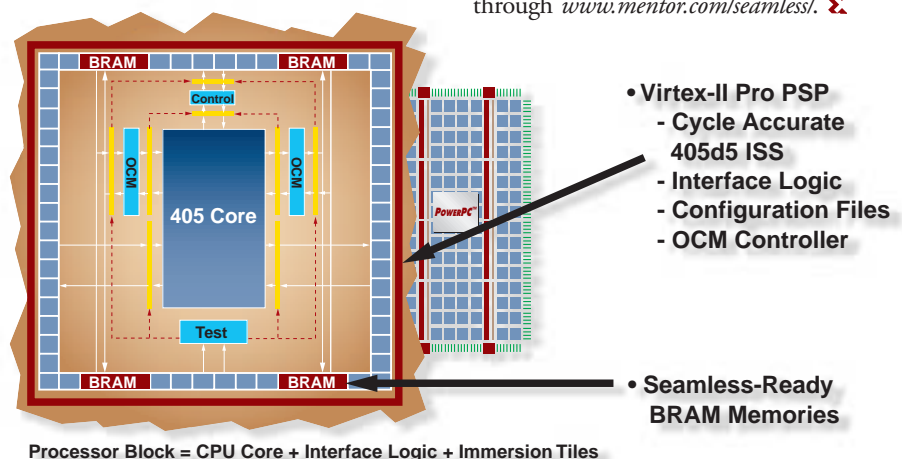

Figure 2 - The Seamless solution for Virtex-II Pro FPGAs includes a custom PowerPC 405 model and Seamless-ready BRAM memory models.
- In Virtex-II Pro FPGAs, the PowerPC 405 core is interfaced to the logic fabric through a fixed block known as the "gasket." By expanding the boundary of the existing cycle-accurate Seamless PowerPC 405 model to include gasket logic, we simplify the task of bringing the Seamless tool into the design flow and raise the performance of the co-verification environment (Figure 2).
for Virtex-II Pro FPGAs includes Seamless-ready models for Xilinx BRAM blocks (Figure 2).